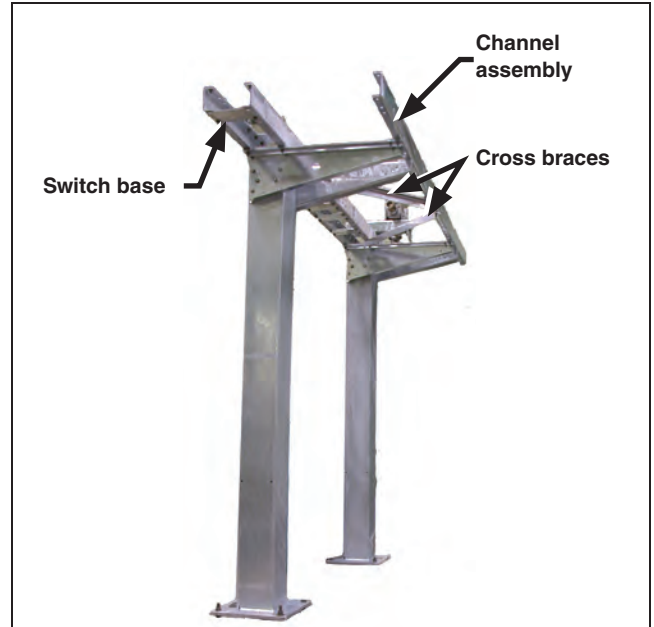

Figure 9. Install the cross braces to complete the structure assembly.
STEP 8. Attach the cross braces to the underside of the switch base and channel assembly as shown on the appropriate reference drawing (RD). Secure the cross braces to the switch base and channel assembly using the four $\frac{5}{8}$ -11 \times 2 $\frac{1}{4}$ -inch hex-head cap screws, flat washers, and self-locking hex nuts furnished. See Figure 9.